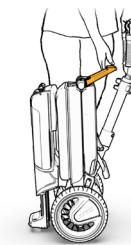

Figure 47
3. Hold ATTO by the handlebar and rotate the main handle by 180 degrees (see Figure 47).